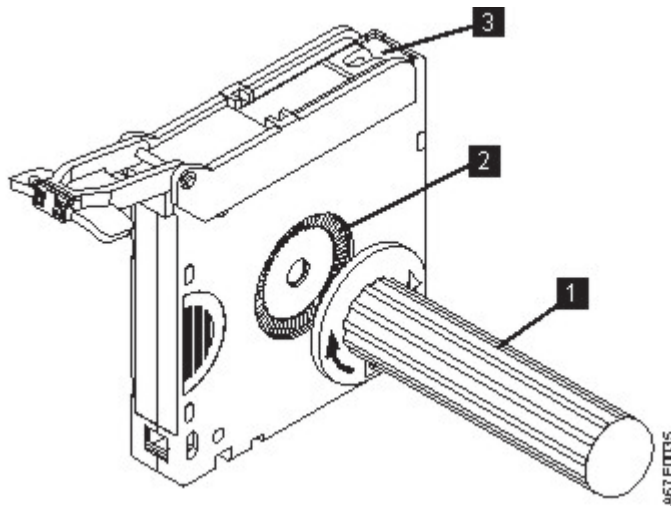

Figure 16. Winding the tape out of the cartridge
2. To find the end of the tape inside the cartridge, attach the cartridge manual rewind tool (1 in Figure 16 on page 71) to the cartridge's hub (2) by fitting the tool's teeth between the teeth of the hub. Turn the tool clockwise until you see the end of the tape inside the cartridge. Then, slowly turn the rewind tool counterclockwise to bring the tape edge toward the cartridge door (3).